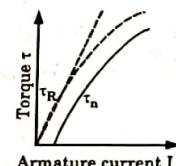

Fig. 3.1.2. Torque-armature current characteristic of a shunt or separately excited DC motor.
2. Eq. (3.1.3) shows that the graph between  $t_g$  and  $I_a$  is a straight line passing through the origin as shown in Fig. 3.1.2.